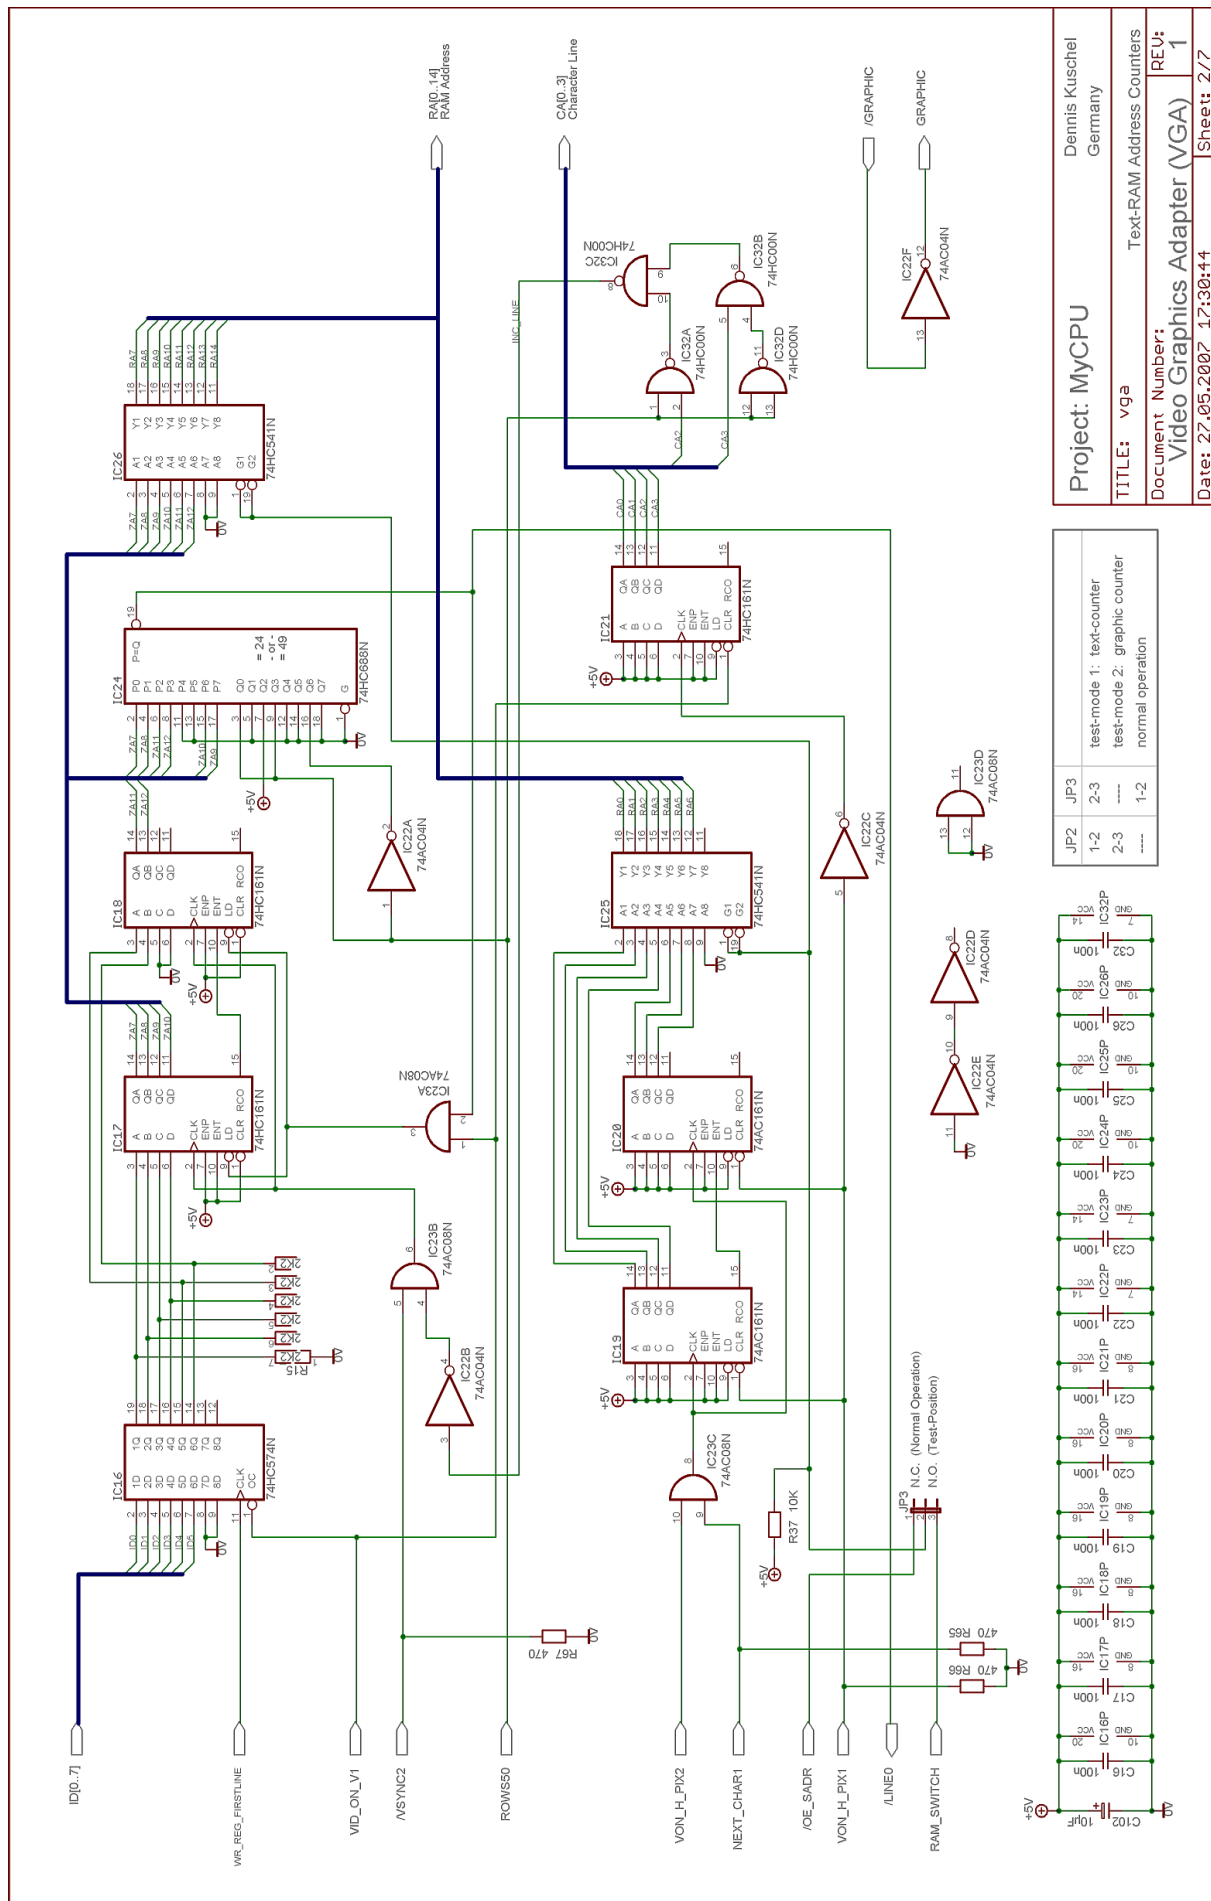

Fig. 40: Text Mode Address Counter
- Fig. 40 on Page 46: Text Mode Address Counter